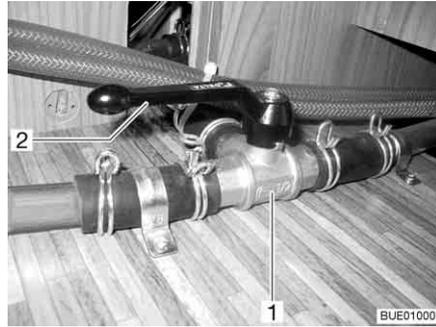

Fig. 187 3-way valve
- Set the lever (Fig. 187,2) of the 3-way valve (Fig. 187,1) parallel to the straight flow direction (Fig. 187).
- Set the lever (Fig. 187,2) of the 3-way valve (Fig. 187,1) transverse to the straight flow direction.